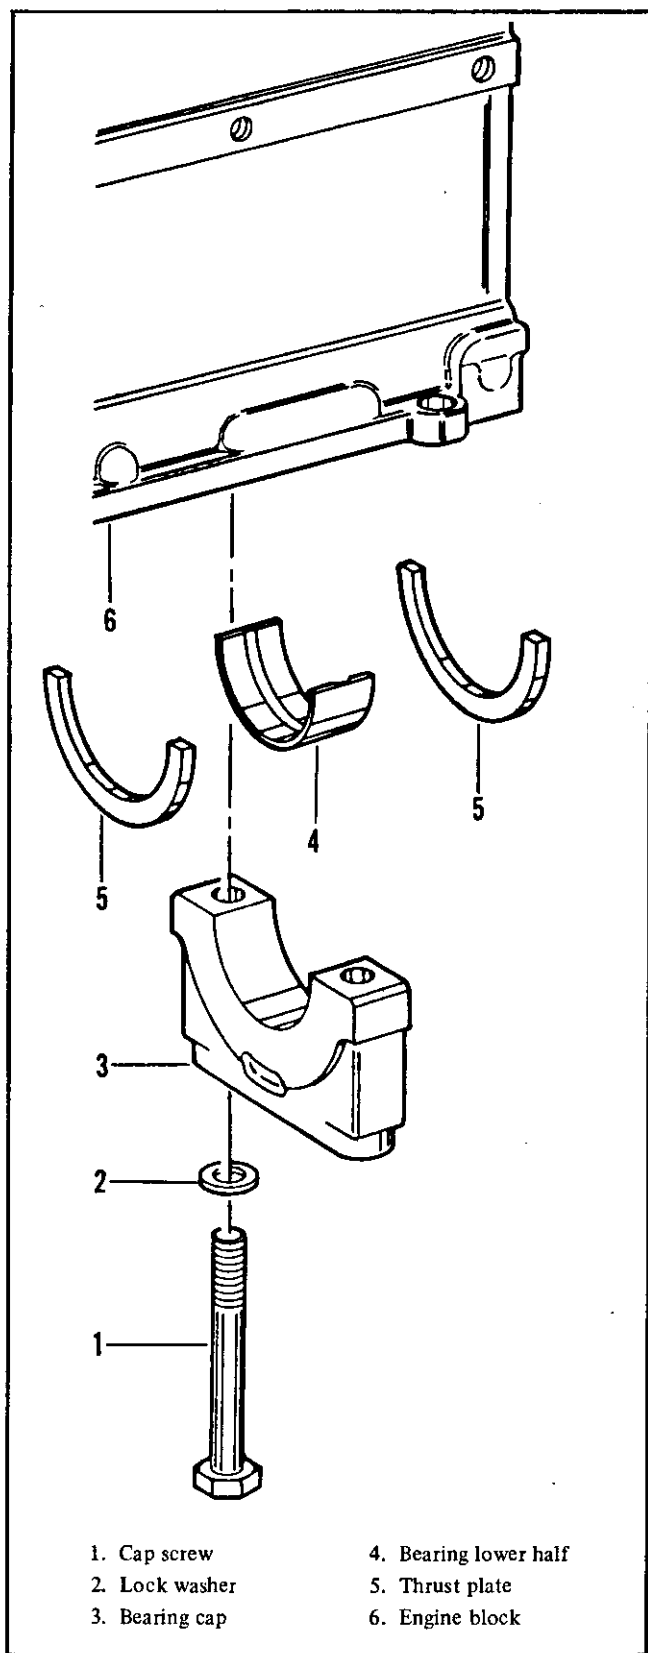

Figure 2-17. Crankshaft removal and installation
- e. Remove cap screws (1, figure 2-17) and washers (2) from each of the seven main bearing caps (3). Remove the bearing caps and bearing lower halves (4). Remove the two thrust plates (5) from rear bearing.
r. Install bearing lower halves and main bearing caps. Torque cap screws to 165 - 185 foot pounds. Install thrust plates (5, figure 2-17) when installing rear bearing cap (3).